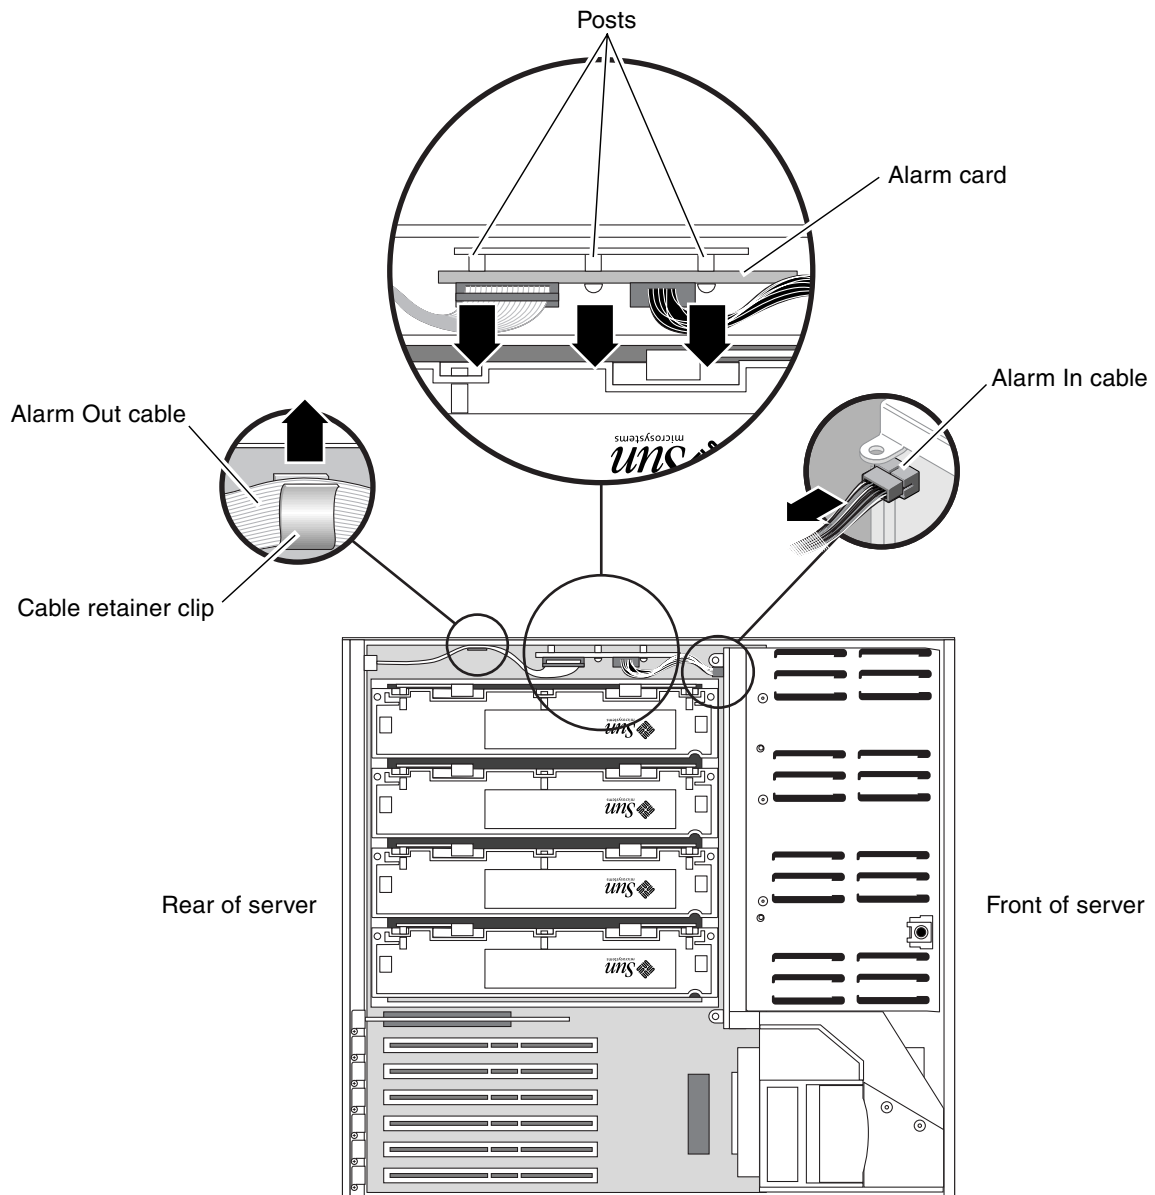

FIGURE 4-32 Locating the Alarm Card
6. Locate the alarm card mounted on the inside of the server (FIGURE 4-32).
7. Disconnect the Alarm In cable from the SCSI backplane (FIGURE 4-32).
8. Remove the Alarm Out cable from the cable retainer clip on the side of the server (FIGURE 4-32).
9. Press against the sides of the alarm card to first disengage the bottom of the alarm card from the two posts on the side of the server, then the top of the alarm card from the one post on the side of the server (FIGURE 4-32).
1. Insert the alarm card and cables into the system (FIGURE 4-32).
2. Align the three holes in the alarm card with the three posts on the inside of the server and press firmly to secure the alarm card to the system (FIGURE 4-32).
3. Connect the Alarm In cable to the SCSI backplane (FIGURE 4-32).
4. Route the Alarm Out cable through the clip on the inside of the server (FIGURE 4-32).